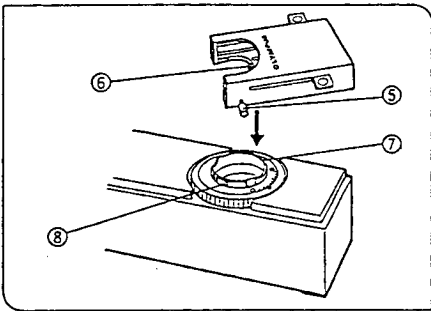
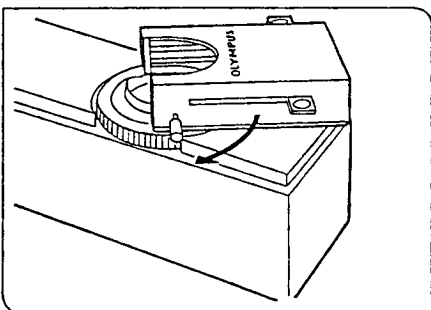

Fig. 27
Fig. 28
Mounting the Filter Housing (Figs. 27, 28)
1. Fully loosen the filter cassette clamping screw ⑤. (Fig. 27)
2. Holding the filter housing above the light exit glass, align the key ⑥ with the slot ⑦ and snap the filter housing into place from above.
3. Rotate the filter housing to align its sides with the base. (Fig. 28)
4. Align the clamping screw ⑤ with the positioning hole ⑧ on the light exit, then tighten the screw to fasten the filter cassette.